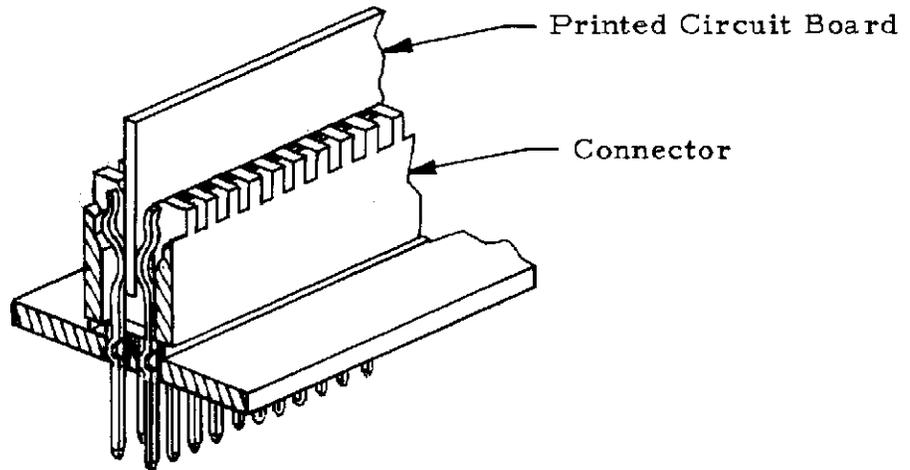

Figure 7
- (1) Insert a printed circuit board into connector slot as indicated in Figure 7.